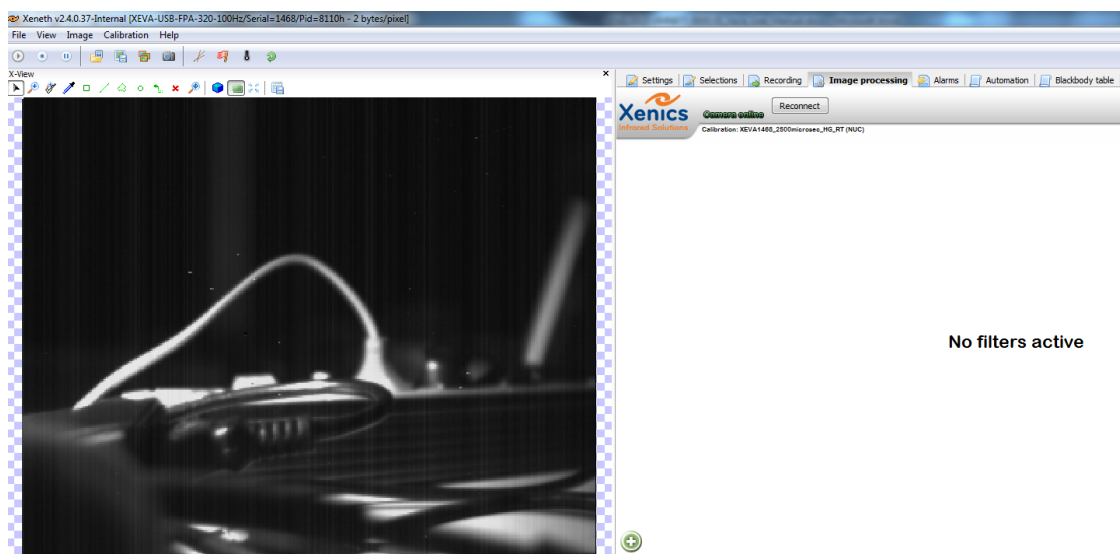

Figure 12-23 Disabled software filters
2. Disable the temperature conversion, auto gain and NUC (all filters in the image processing pane) (see Figure 12-23)